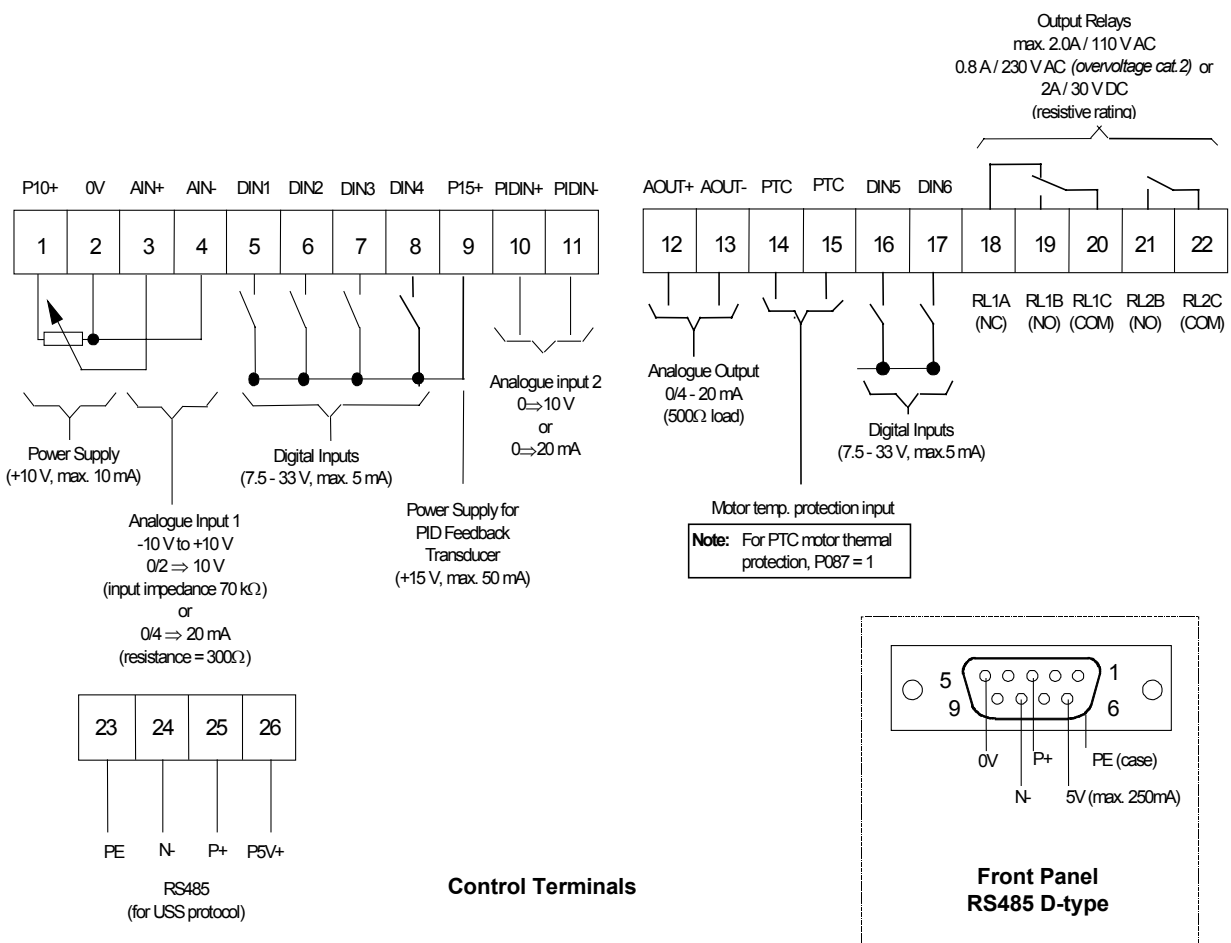

Figure 2.2.4: Control Connections - MICROMASTER Vector
A small bladed screwdriver, max. 3.5 mm will be required to operate the control terminal WAGO cable clamp connectors as shown in Figure 2.2.4.
**Note:** These connections have to be made with the inverter dismounted from the mounting surface. Care must be taken routing the leads through the moulded clips to prevent trapping and chafing when the unit is mounted and secured to the selected surface. Connect the control leads as shown in Figures 2.2.4 and 2.2.6.
15. Connect the control leads as shown in Figures 2.2.4 and 2.2.6.
11. Connect the control leads as shown in Figures 2.2.4 and 2.2.6